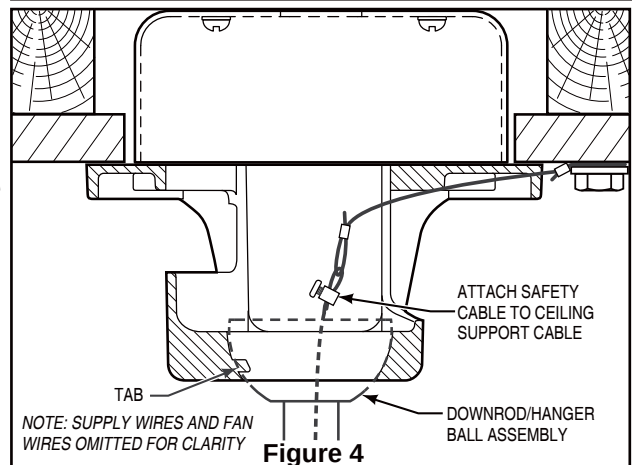

Figure 4
- ☐ 4. Install the clevis pin, hairpin clip and tighten set screws. The clevis pin and hair pin clip must be properly installed to prevent the set screws from working loose. (Figure 4)
Setting Process : (Figure 4)